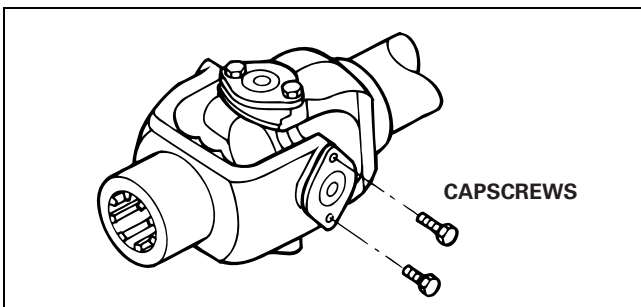

Figure 5.4
4. Align the cover plate holes and the yoke ear. Figure 5.4. Install the bearing cover plate flush against the milled surface of the yoke.